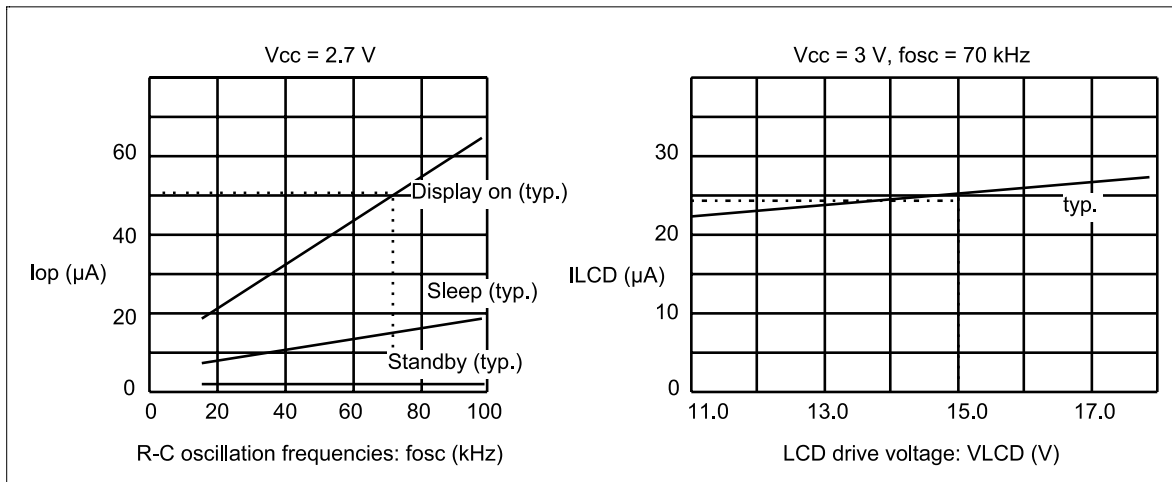

Figure 60 Relationship between the Operation Frequency and Current Consumption
7. The following shows the relationship between the operation frequency (fosc) and current consumption (Icc) (figure 60).